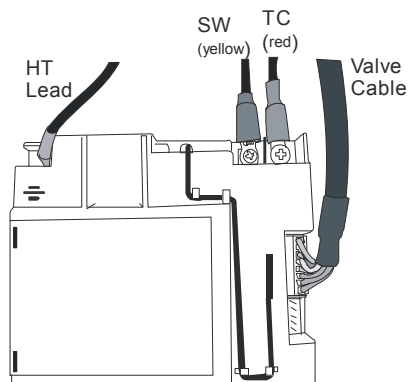

Figure 70
3. Feed the cables from the valve through the heat shield and connect to the receiver as shown in **Figure 70**, keeping the cables clear of the underside of the tray. Do not force the valve cable when inserting into the receiver – it only fits one way.